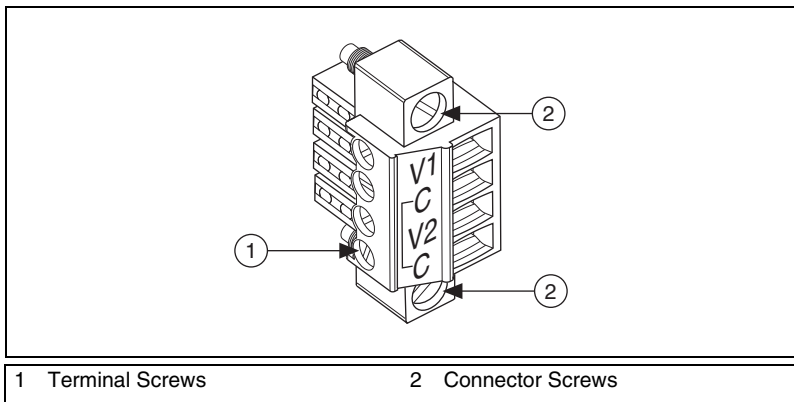

Figure 11. COMBICON Power Connector
1. Connect the positive lead of the power supply to the V terminal of the COMBICON power connector shipped with the cRIO-9072/3/4, and tighten the terminal screw. Figure 11 shows the terminal screws, which secure the wires in the screw terminals, and the connector screws, which secure the power connector on the front panel.